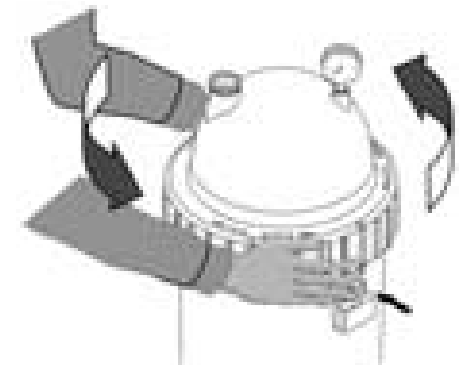

Fig. 3 – Depress safety latch to unscrew the Posi-Ring™.
- a. Press the safety latch (below the ring) toward the tank to release it (see Figure 3).